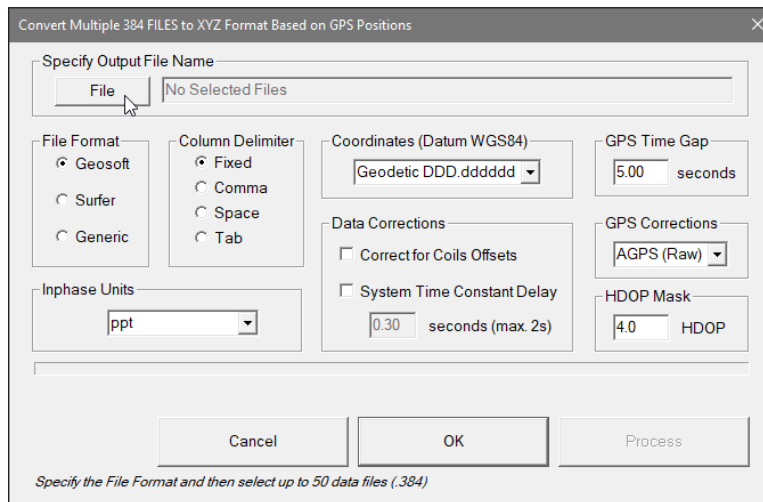

Figure 2.4 Convert Multiple EM38-4 Files to XYZ Format dialog
The third item in the Convert Files menu is **Convert Multiple EM38-4 Files (384) to XYZ File Format**. When this item is executed a dialog shown in Figure 2.4 will be displayed. A detailed description of all parameters in this dialog is provided in the chapter 7 (Export data files to XYZ format). Select files (up to 50 files at a time) to be converted by clicking on the **Select Files** button.